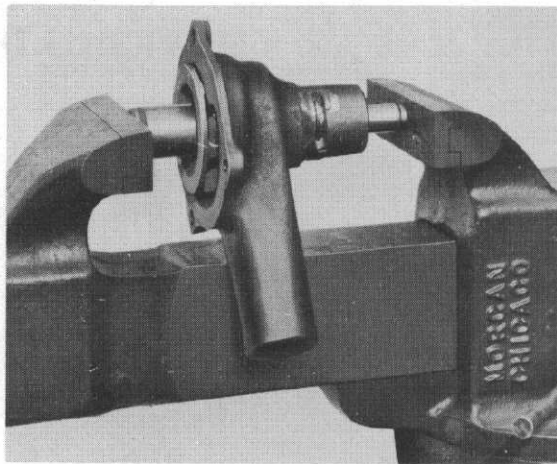

Fig. 6
- Step 3—Install the impeller as shown in Figure 6.